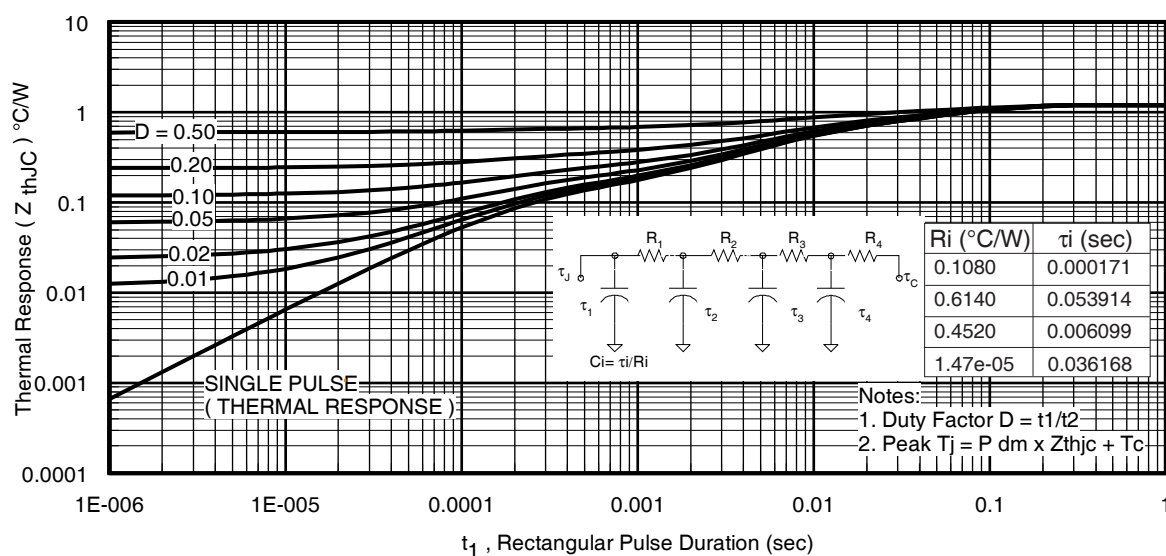

Fig 15. Maximum Effective Transient Thermal Impedance, Junction-to-Case
7. ΔT = Allowable rise in junction temperature, not to exceed T_{jmax} (assumed as 25°C in Figure 15, 16).